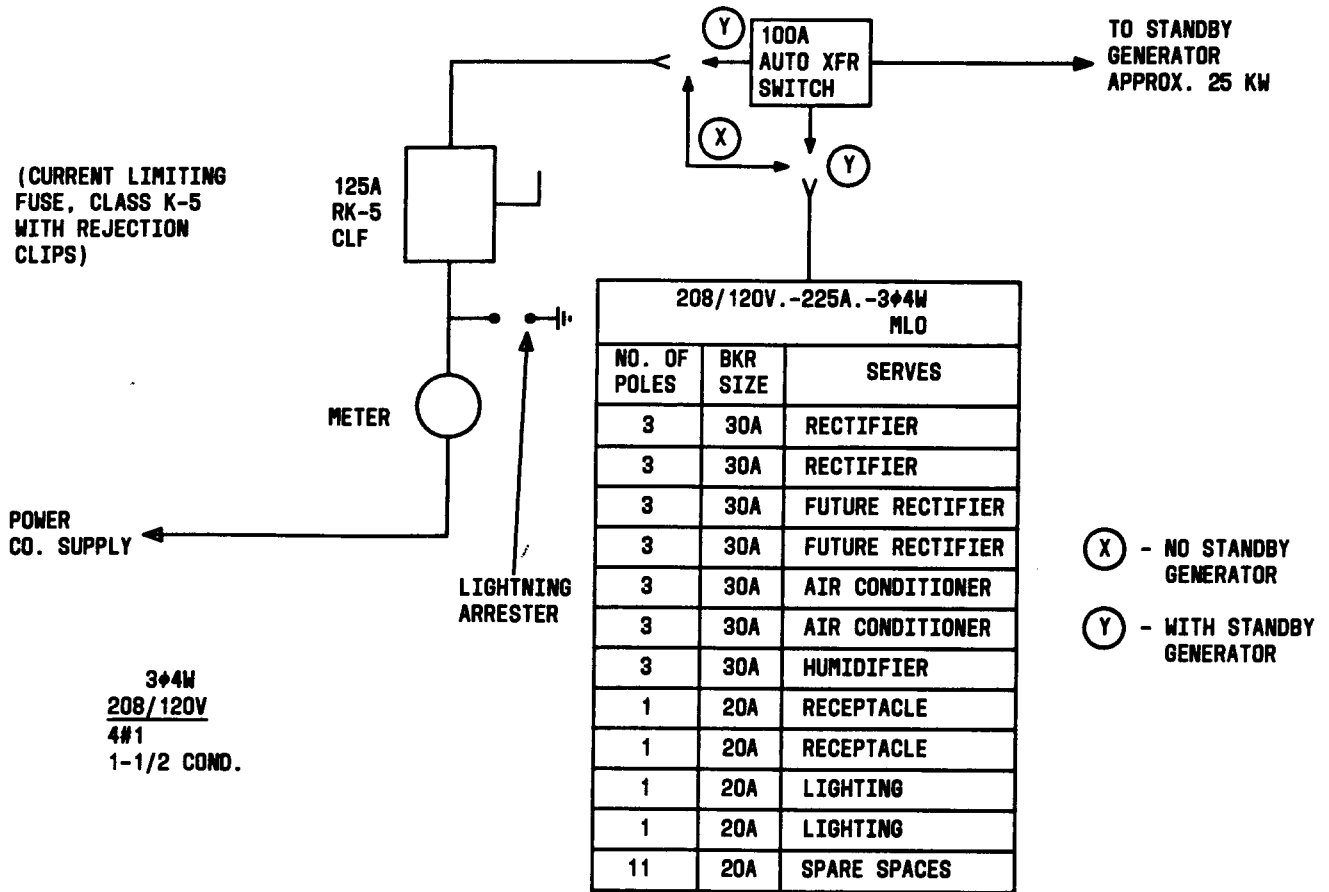

Fig. 4—Three-Phase Electrical Service
**4.01** Recommended electrical service and distribution are shown in Fig. 4 and 5. This will provide adequate power for any foreseeable DMS-10 Digital Switching System requirement at minimum cost.